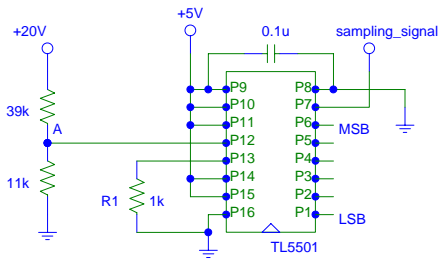

Fig. 1 Analog-to-Digital Converter
2. Assemble the circuit of Fig. 1 **without** connecting node A to pin 12 of the ADC yet. Connect FG2 as the sampling signal at pin 7 of the ADC. Use the output labeled +6 V of the power supply to power this circuit. Adjust the power supply voltage to 5.000 ± 0.005 V (use the digital multimeter to do this measurement). This voltage is V_{max} in Eq. (3). It may be cumbersome to adjust the power supply with such accuracy, but it is needed for the purpose of the experiment.